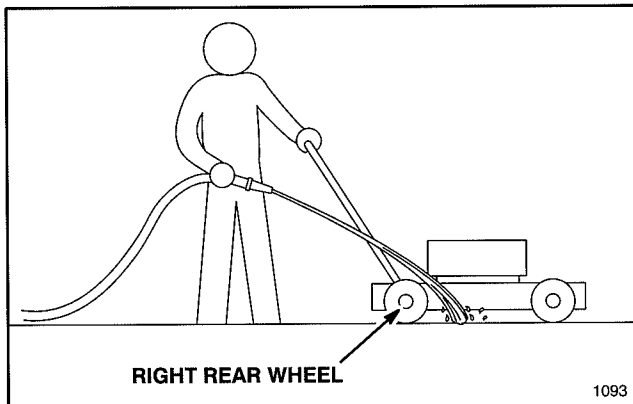

Figure 25
4. Hold the running garden hose at handle level and direct water to flow on ground just in front of right rear tire (Fig. 25). The rotating blade will draw water under the housing and wash out clippings. Let the water run for a few minutes or until you no longer see clippings being washed out from under housing.